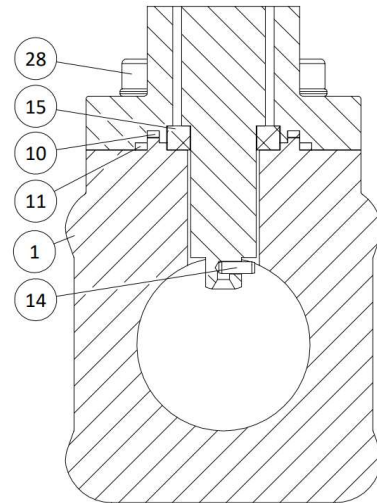
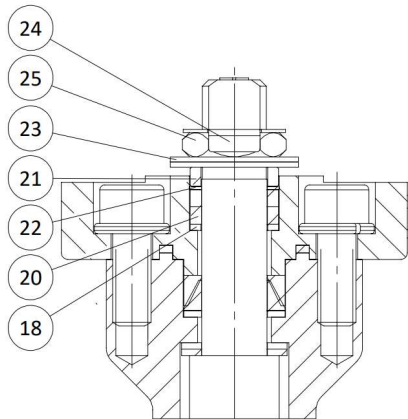

Figure 3 – Extension and body assembly
Figure 4 – Fire safe packing assembly.
5. Place the first seal (10) into the extension (3) and the second seal (11) and the bearing (15) into the body (1) – Figure 3 – Extension and body assembly. Carefully place the extension set (3) on top of the body (1), to avoid damaging the seals and the bearing. Rotate the stem (6) and the extension (3) to ensure no sealing is broken or malfunctioning. Tighten the bolting (28) according to Table 4 – Extension bolting system torque [Nm];
6. Check if the stem (6) rotates freely with a uniform torque to check if any sealing has malfunctions;
7. Place the fire safe packing (20), the washer (18), the stem seal (22) and the bearing (21) into the iso flange (4);
8. Place the disc springs (23) and the stem nut (24) and tighten according to Table 5 –Fire safe packing system Torque [Nm]. Place the locking clip (25) into stem nut– Figure 4 – Fire safe packing assembly;